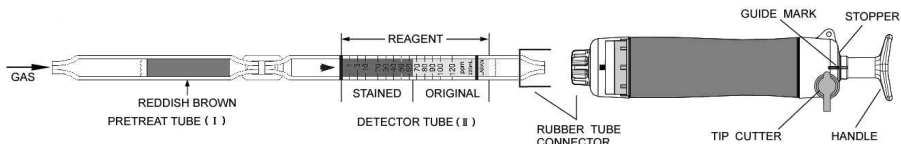

Fig.1
- ① Break both ends of the pretreat tube (I) and detector tube (II), and connect each end of the pretreat tube and detector tube with connecting tube as shown in Fig.1.
- ② Insert the detector tube into the aspirating pump securely as shown in Fig.1. (Arrow mark shall point to the pump.)
- ③ Align the guide marks on the shaft and stopper of the aspirating pump.
- ④ Pull the pump handle at a full stroke until it locks and wait for 1.5 minutes or until the completion of sampling is confirmed with the flow indicator of the pump. (See descriptions about the flow indicator in the instruction manual of the pump.)
- ⑤ Turn the pump handle right or left by 1/4 (90°), push it toward the pump without removing the detector tube from the pump and repeat the step ③ ~ ④ once more.
- ⑥ On completion of sampling, read the scale at the maximum point of the stained layer.
- ① Temperature; Correct the tube reading by following temperature correction table.